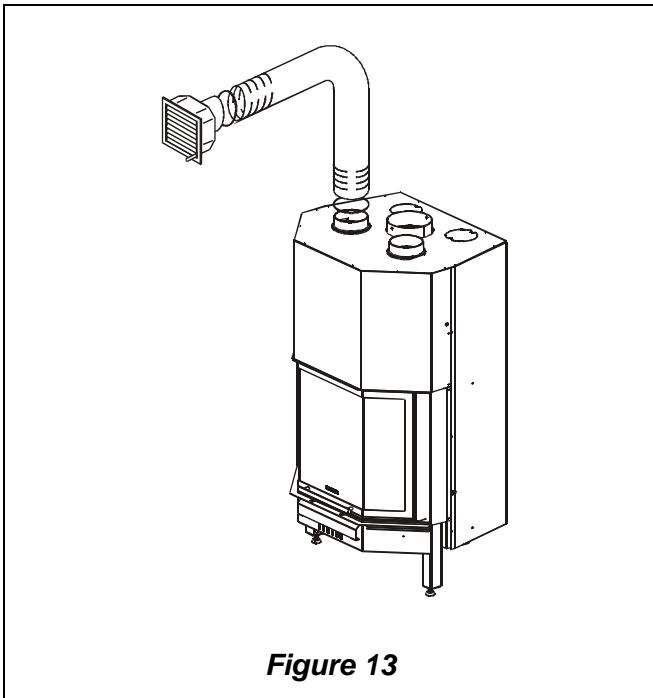
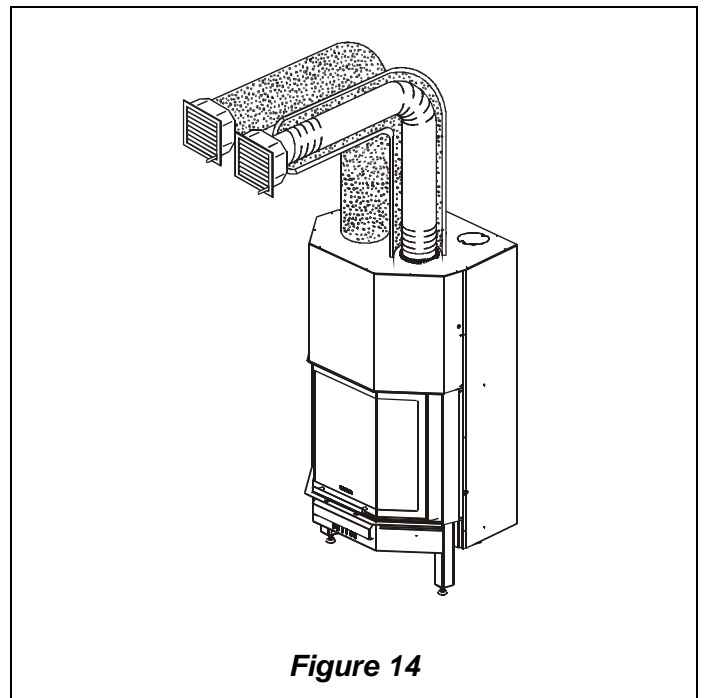

Figure 13
Figure 14
- e) The lengths of the canalization pipes must have the same length to avoid the distribution of differing quantities of air from each output. (see Figure 13 - Figure 14)